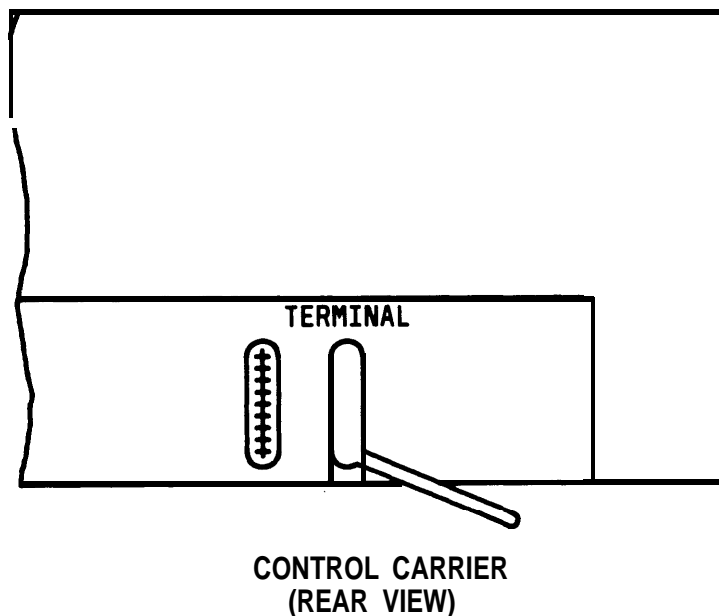

Figure 18. Control Carrier Connections for the System Access Terminal Plug
31. Disconnect the SAT plug from the TERM connector of the small cabinet. Reconnect the plug to the TERM connector of the medium cabinet (Figure 18).